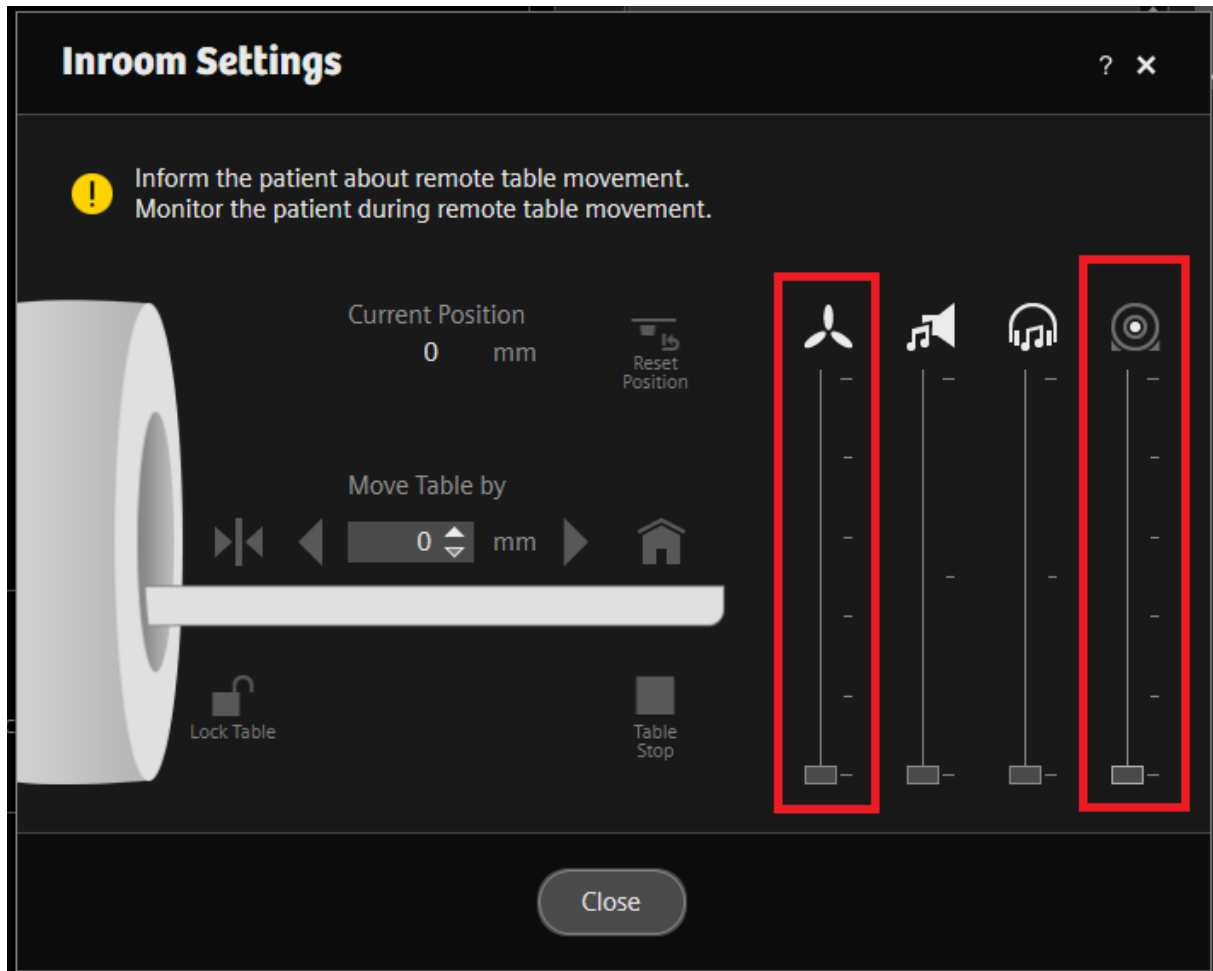

FIGURE 4 In-room settings.
Step 2: Set in-room Settings to turn off ventilation and lights, as shown in Figure 4.